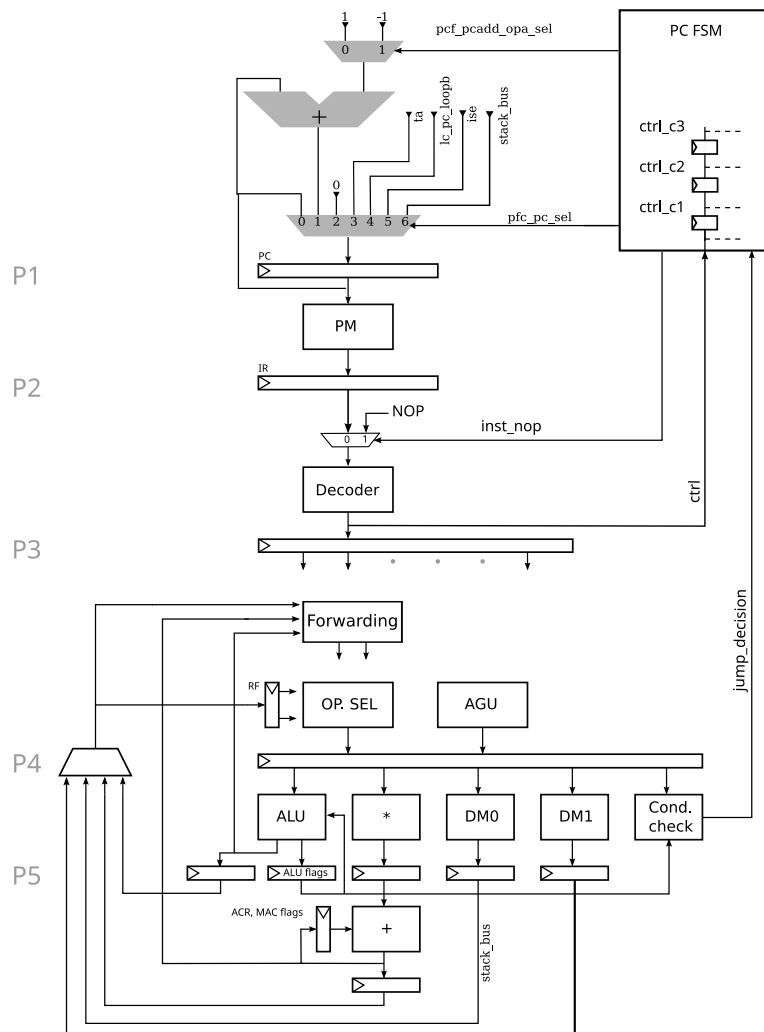

Figure 3.1: The normal pipeline, including PFC details.
During all execution, instructions are fetched from the program memory (PM) using the program counter (PC) as the address. An instruction decides the values of all the control signals in the processor. An instruction usually has fewer bits than there are control signals in a processor, thus the instruction must be converted into its control signals before it is of any use. This is the task of the instruction decoder. The instruction decoder, situated in pipeline stage P2 in the processor according to Fig. 3.1, has two sub modules; `id_decode_logic` and `id_pipeline_logic`. Verify this by open `instruction_decoder.v` (only a Verilog version of this file is available). Your first task is to briefly describe what the two modules do. It is important that you understand how the pipeline in Fig. 3.1 works to complete this lab.
In Listing 3.1 a small program is defined. Your task is to fill out a pipeline table as described in Section 3.5. Detailing how the instructions progress in the pipeline. You can refer to the instructions as the line number they are defined on in Listing 3.1. Set PC to zero for the first instruction (on line 2). When doing this exercise look at the pipeline of the processor, shown in Fig. 3.1, and think about what instructions are in each pipeline stage.
As shown in Fig. 3.1, the PC FSM takes inputs from the instruction decoder (the `ctrl` signal) and the condition checker (the `jump_decision` signal). It outputs two signals, `pc_add_opa_sel` and `pc_sel` to the program counter (next PC block). The program counter will update the PC value according to these two control signals from PC FSM.